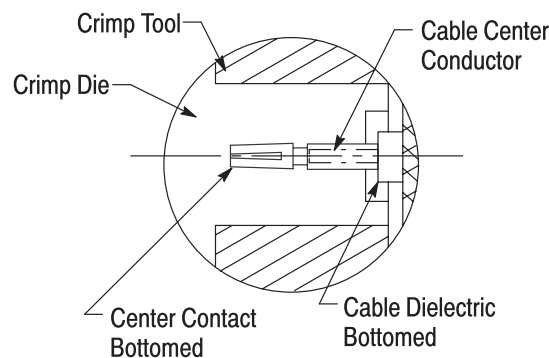

Figure 3
- Set the selector knob of the crimp tool (for the center contact) to "3". Insert the center contact into the crimp die until it bottoms. Insert the cable center conductor into the center contact until the dielectric bottoms. Refer to Figure 3.